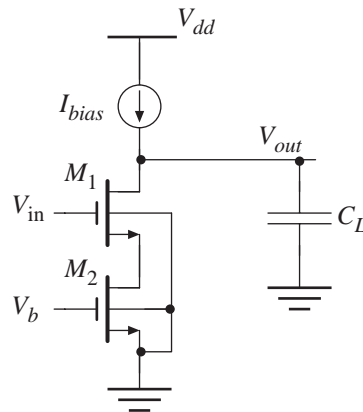

Figure 3.1 A noisy CMOS circuit.
a) Derive the equivalent output noise of the circuit, shown in Figure 3.1, due to the thermal noise generated by the transistors M_1 and M_2 . (5p)